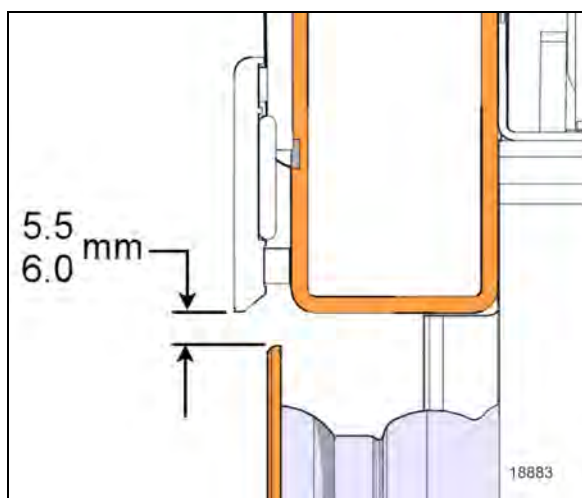

FIGURE 128: "Z" DIRECTION ADJUSTMENT
17. For the "Z" direction, adjust the top of the door panel between 5.5 and 6 mm from the horizontal trim as shown in Figure 128.